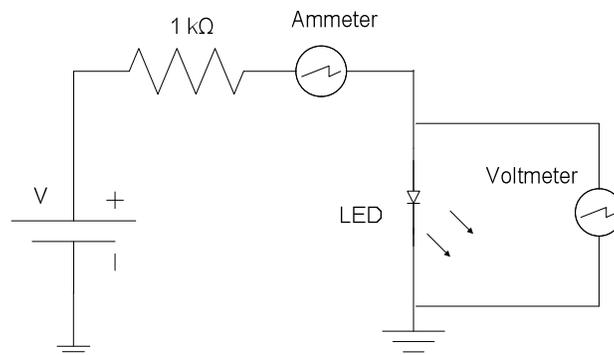

Figure 3 LED circuit
22. Connect the circuit as shown in Figure 3.